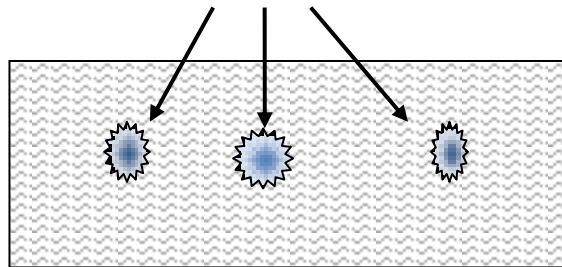

FIGURE 1: Standard Twist Drill Should Not Be Used To Drill Holes In Sheet Metal
Drilling holes in sheet metal is difficult, and the results may be damaged work. This is especially true with standard twist drills over 12.7 mm (1/2 in) in diameter. The standard twist drill has a tendency to "hook" into the thin metal. This "hooking" action is caused by the rake angle created by the helix of the flutes and the drill point. A clean, round hole is not produced by the standard twist drill (See Figure 1).
2. By referring to Figure 1, you can understand how “the rake angle created by the helix of the flutes and the drill point” creates the “hooking” action.
Passage 2 is an evaluation of a drilling operation and a type of problem. It directs you to Figure 1 to show you the problem. The passage describes the problem, looks at the cause and offers a solution.